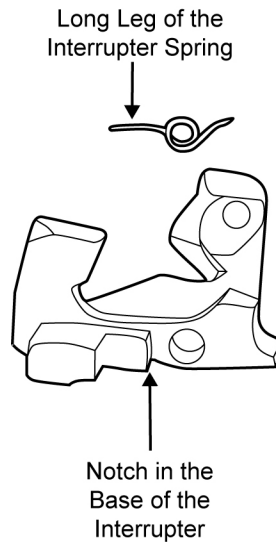

Figure 42. The Interrupter and Interrupter Spring.
- j. If present, install the interrupter onto the trigger, ensuring that the notch in the base of the interrupter is seated on the forward edge of the right side of the trigger. Install the interrupter spring with the long leg of the spring pointing forward. Ensure that the hole in the base of the interrupter and the coil of the interrupter spring are aligned with the holes in the trigger. Refer to Figure 42.